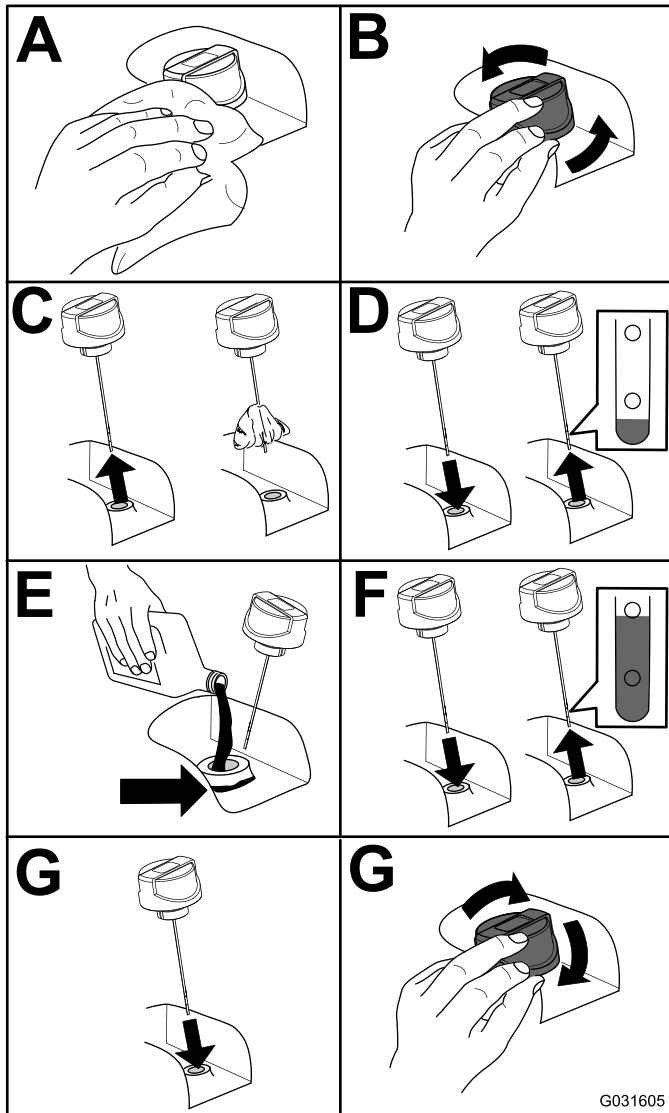

Figure 57
2. Check the hydraulic-fluid level (Figure 57).